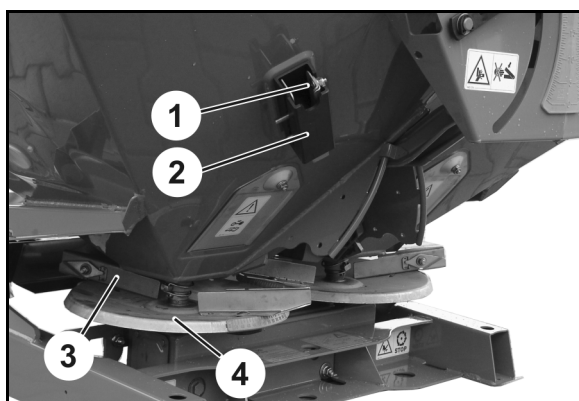

Fig. 78
- 1. Remove the border spreading vane (Fig. 78/1) from the holder (Fig. 78/2).
- 2. Remove the long spreading vane (Fig. 78/3) of the left spreading disc (Fig. 78/4).